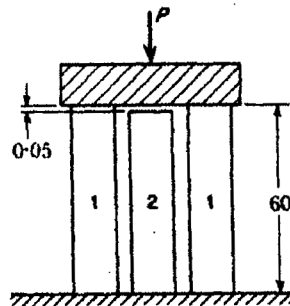

Fig.1 (a)
- 1 (a) A rigid steel plate is supported by three concrete posts each having a  $10\text{cm} \times 10\text{cm}$  square cross-section as shown in Fig. 1(a). By accident, the middle post is  $0.05\text{cm}$  shorter than the other two before load  $P$  is applied. Find the safe value of load  $P$  if the working stress for the concrete in compression is  $200\text{kg/cm}^2$  and the modulus of elasticity  $E_c = 12 \times 10^4 \text{ kg/cm}^2$ .